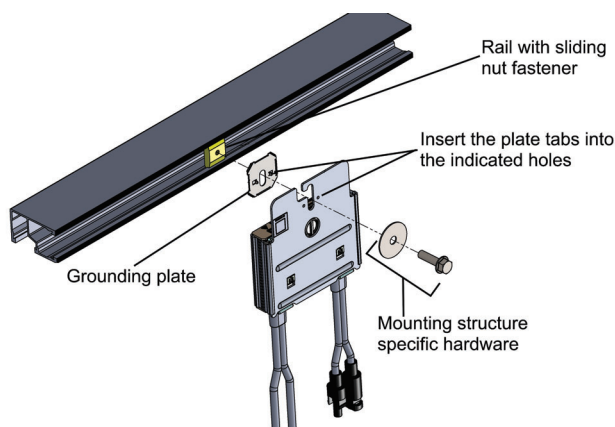

Figure 5: Power optimizer installation and grounding using a grounding plate
- **For mounting on rails with sliding nut fasteners:** If the star washer cannot be used, use the SolarEdge grounding plate (purchased separately) between the railing and the flat side of the mounting bracket. Use mounting specific hardware as needed. Apply torque of 9.5 N*m / 7 lb*ft. See Figure 5.